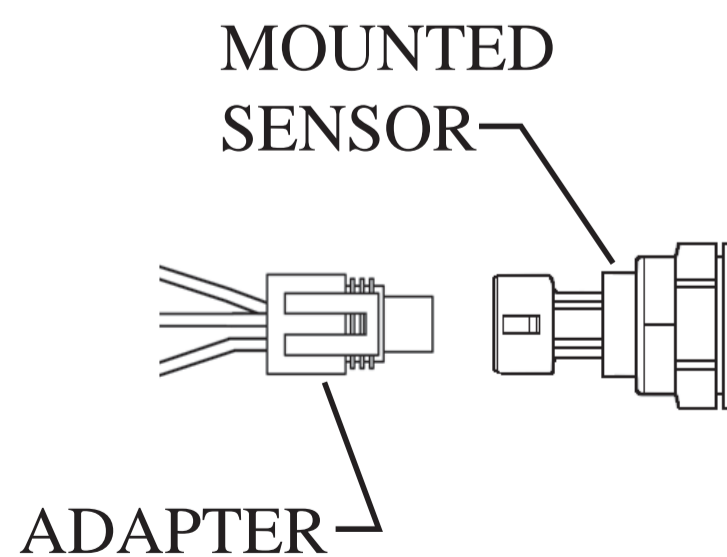

Figure 18
2) Plug the small round connector into the pressure sensor. See Figure 18